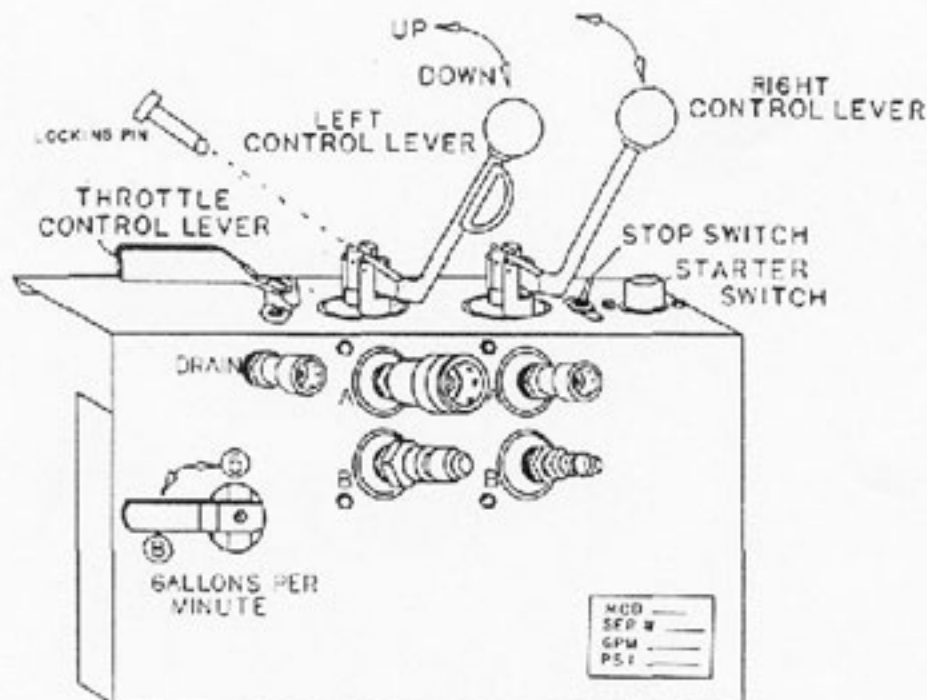

Figure 1
Tags are located on the lower edge of the control panel (see Figure 1).
- A. On/off and starter switches. To start - turn on/off switch "on" (some models have optional switch mounted on engine - in this case both switches must be on). (Figure 1)
1. The standard control valve on all Power Units is an open centered valve. (O4 is stamped on the end of spool). All ports are connected to tank when spool is in neutral. The valve control lever is spring returned to neutral whenever the handle is released. Some tools and/or accessories may require the lever to be locked in the "up" position (spool is locked down). This is accomplished with pin and locking block provided. (Figure 1)
- A. T4 valve - Typically located to the right side of the control panel. Tandem center valve work ports are blocked in the neutral position. Typically set at 600 psi. (Figure 1)
- B. 5/8 Switch - Controls pump output. Either 5 or 8 GPM at full engine RPM is available. Intermediate volume is available by varying engine speed. (Figure 1)
- C. Drain line - Standard on 16 HP models but available on all others. Used as a case drain on some motors. Fluid is allowed to return to reservoir at atmospheric pressure. (Figure 1)